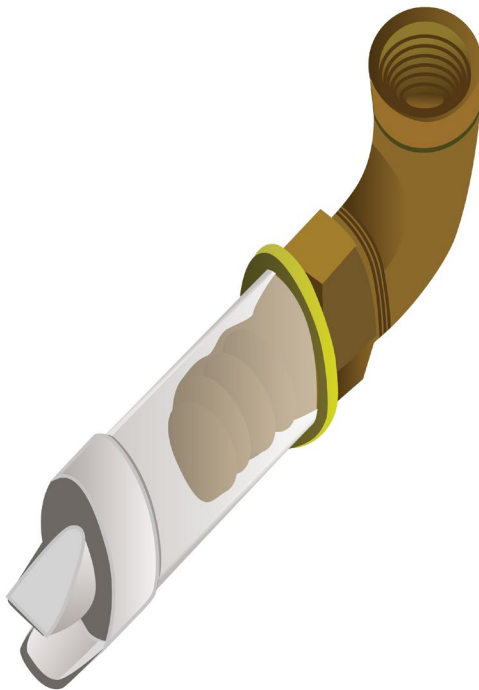

Figure 3: Drain tubing with duck bill
3. Screw the chamber drain tube onto the threaded cabinet drain connector as shown in Figure 3.